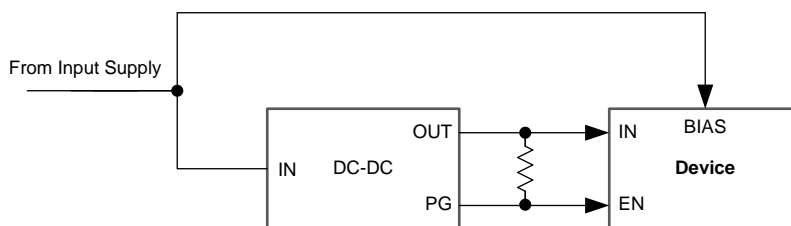

**Figure 46. Sequencing Diagram**
- VBIAS and VIN can be sequenced in any order, as long as VEN is tied to VIN or established after VIN, as shown in Figure 46